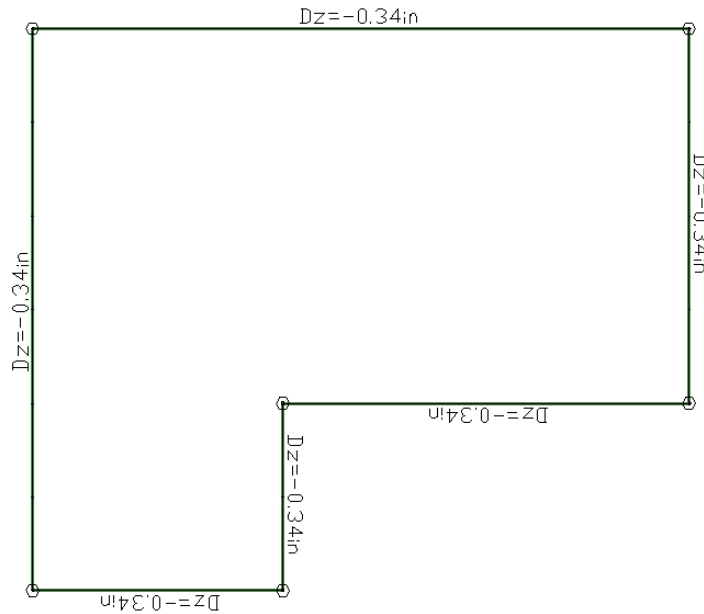

FIGURE 4.3-3 APPLIED DISPLACEMENT
5. Using the *Snap to Intersection*  tool, snap the line displacements along the perimeter of the Slab as shown in **Fig. 4.3-3**.